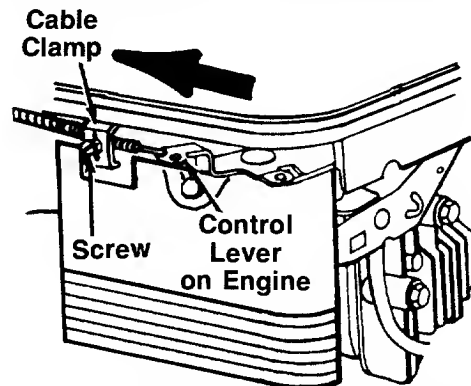

FIGURE 16A.—Briggs & Stratton Quantum Engines
1. Remove the screw shown in figure 16A. Remove the cable clamp from the cable.